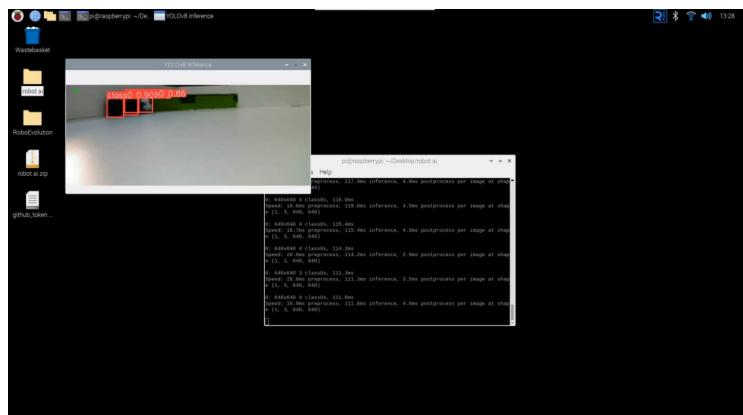

Figure 13: Working Coral TPU
- Fixed the issue of getting unusable outputs from the TPU already encountered here, (see Fig. 13)